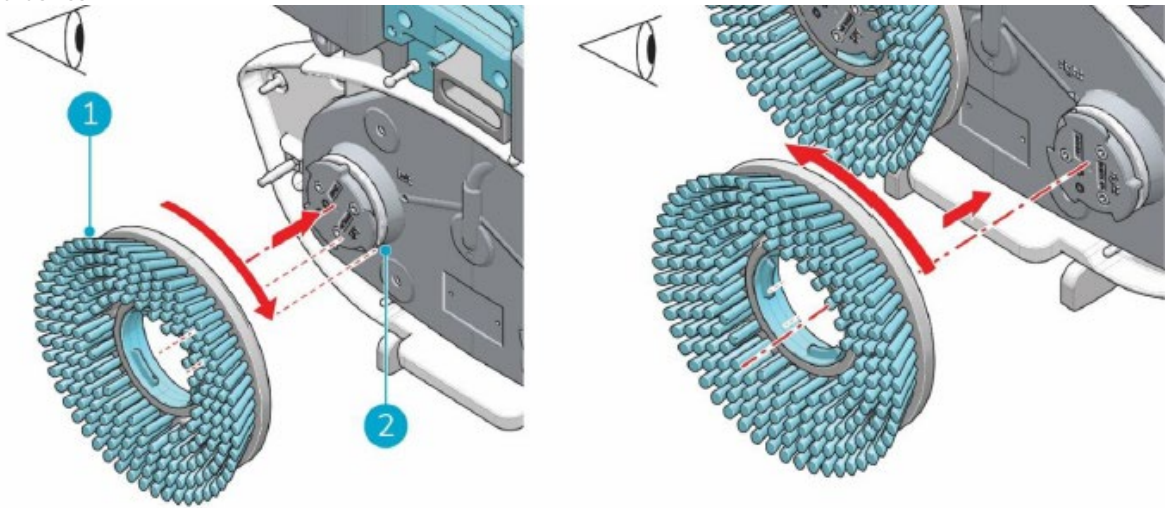

Fig. 1
3. Align the left brush (Fig. 1 pos. 1) with the left motor disk (Fig. 1, pos. 2). Align the latches and cut-outs in the brush and motor disk.